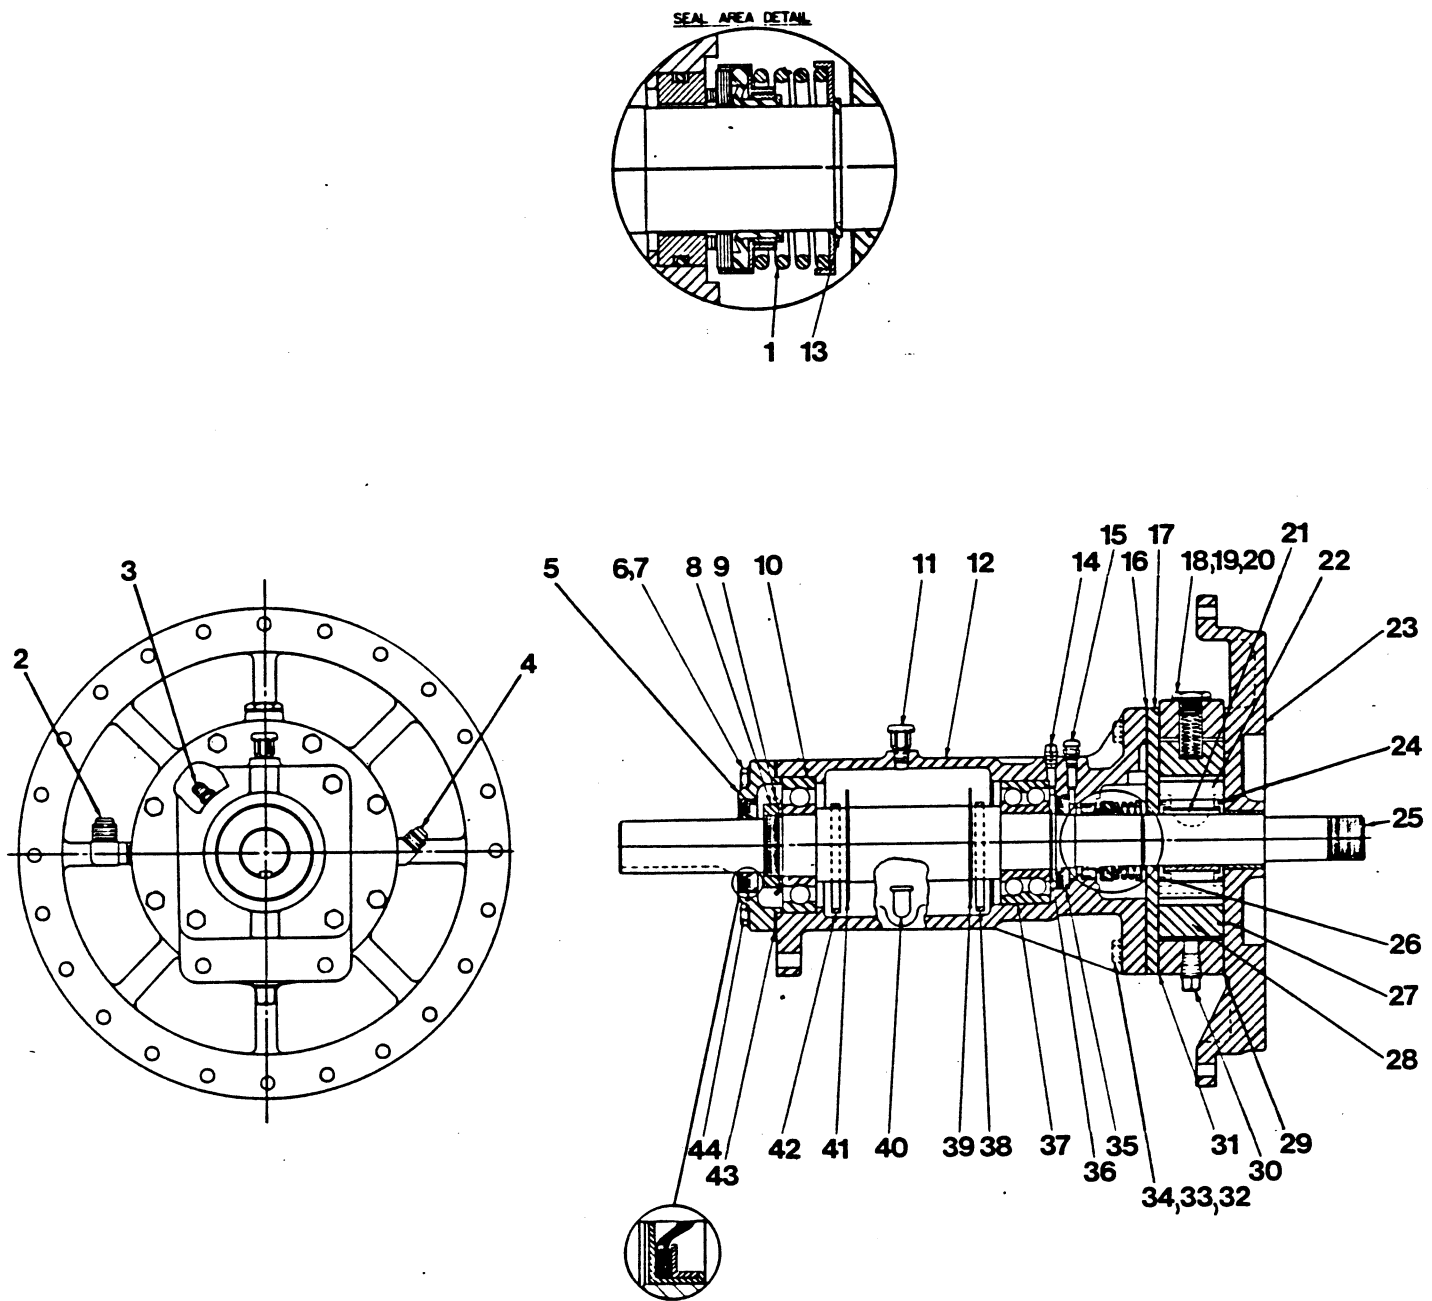

Figure 2. Bearing Housing Assembly 44143-092
Before attempting to service the pump, disconnect or lock out the power supply to prevent accidental start up. Close all valves in the suction and discharge piping and drain the pump casing and group grind by removing the drain plugs (17, Figure 1, and 31, Figure 2). Clean and reinstall the drain plugs.
Disconnect the air release valve discharge tube assembly (31) from the bearing housing (12, Figure 2). Disconnect the return assembly (32) from the suction flange (15).
Disconnect the suction and discharge piping from the pump casing. Disconnect the priming tube assembly (27) from the suction flange and center plate. Remove the male elbow and male connector (2 and 4, Figure 2) from the center plate. Disconnect the seal tube assembly (5) from the bearing housing (4) and pump casing (1).